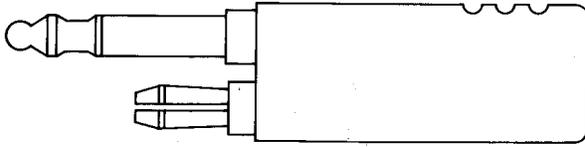

Fig. 7—410B Plug
2.07 **410B:** The 410B plug (Fig. 7) has two plug fingers with a shell of black insulating material. The short finger is connected to the tip of the long finger and the plug is not designed for cord connections. This plug replaces the 410A plug and is used with the 247A jack mounting equipped with No. 92 jacks on the 9B Telegraph Service Boards.